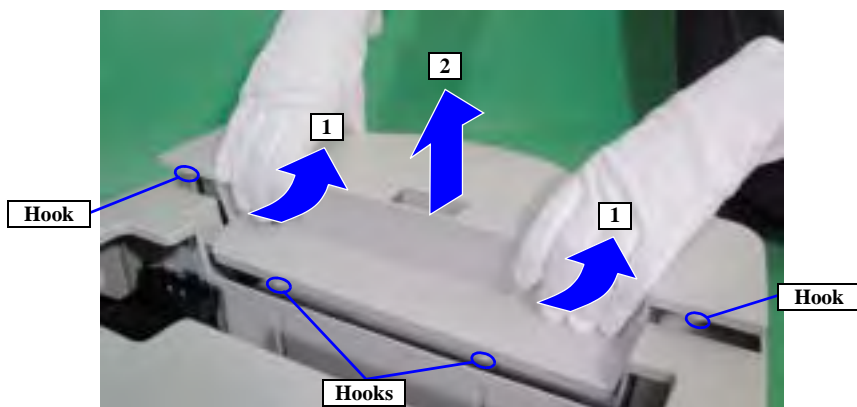

Figure 4-28. Front Housing Removal 2
4. Follow the order shown in Figure 4-28 to release hooks at 4 places and remove the Front Housing from the Middle Housing.